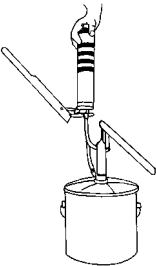

FIGURE 9
4. Insert the loader fitting on the head into the valve on the pump (see figure 9).